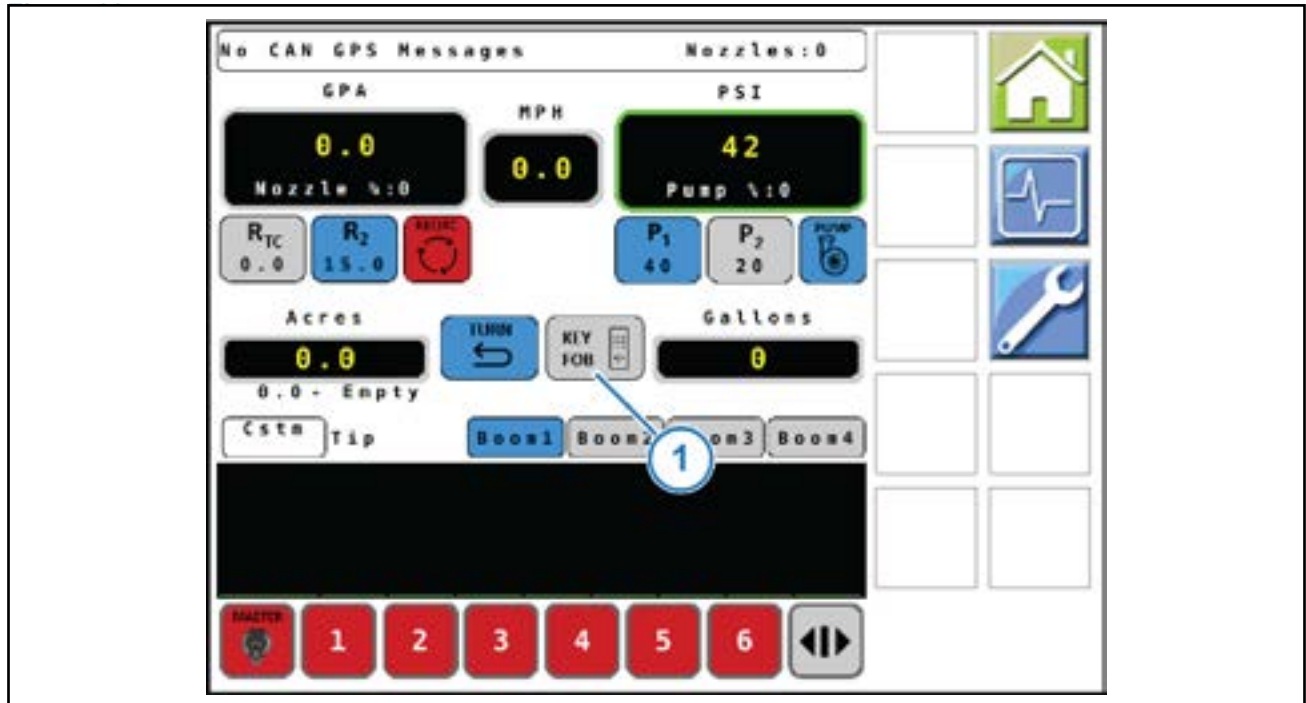

Figure 29: Run Screen
1. To initiate the key fob boom shutoff dry test, select the **KEY FOB** icon (Figure 29, Item 1).